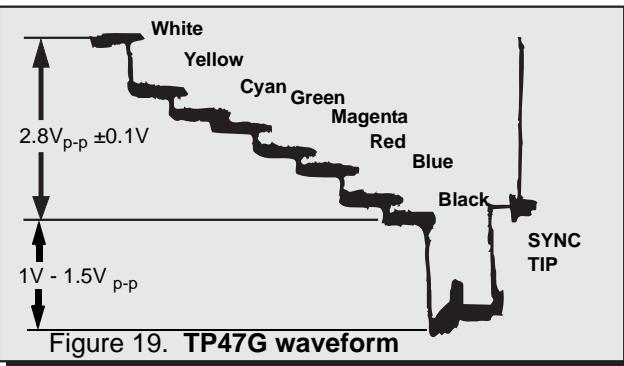

Figure 19. TP47G waveform
1. In the Service Mode, select DAC Sub-Brightness Adjustment (B2) and adjust for **1.0-1.5Vp-p** between blanking and 7.5 IRE level. (See video waveforms detail, Fig. 19).
2. In the Service Mode for electronic adjustments, select DAC Sub-Contrast Adjustment (B3) and adjust for **2.8Vp-p ±0.1V** for 27" models from white level to black level on video waveform (see video waveforms detail, Fig. 19).